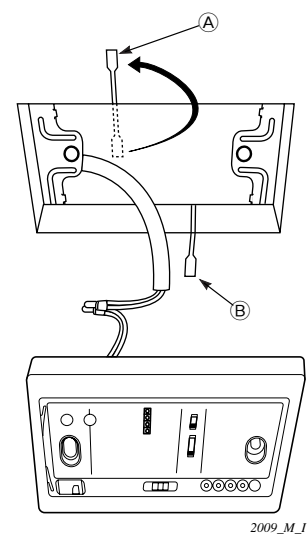
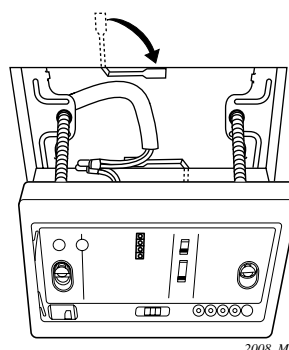

Fig. 7-20
Fig. 7-21
- (4) Fit securely into the ceiling material at sections (A) and (B) as shown in Fig. 7-20.
- (5) Connect the wire (2-wire core) from the signal receiving unit with the wire from the indoor unit. (See section on how to wire the receiving unit.) as shown in Fig. 7-20.
- (6) Use the supplied spacers to adjust for a thickness several inches more than the ceiling material and lightly fasten the receiving unit in place with the small screws (M4 × 1-9/16 in., 2 pcs.) supplied with the unit.
- (7) Tighten the machine screws after fitting sections (A) and (B) into the openings, in the gap between the signal receiving unit and ceiling surface as in Fig. 7-21. Do not apply strong force when tightening the screws. Excessive force might warp or damage the cover. When finished the signal receiving unit should still be able to move slightly when pressed as shown in Fig. 7-21.
- (8) Reinstall the cover plate.